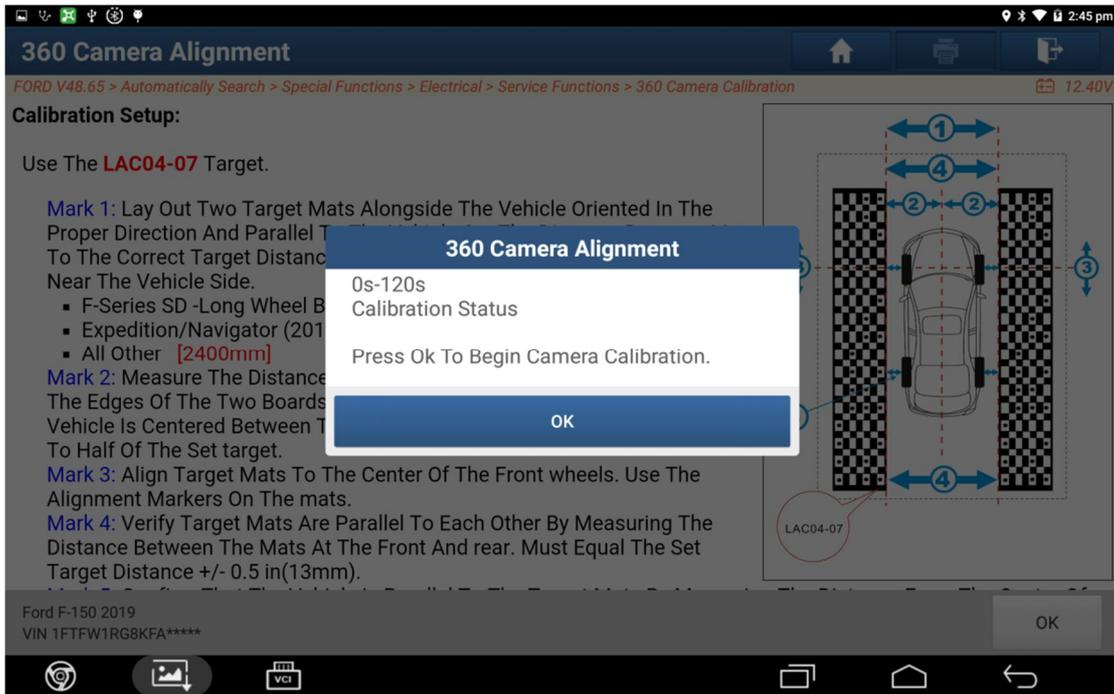

Figure 12
11. Prompt the time required for calibration (Figure 12).